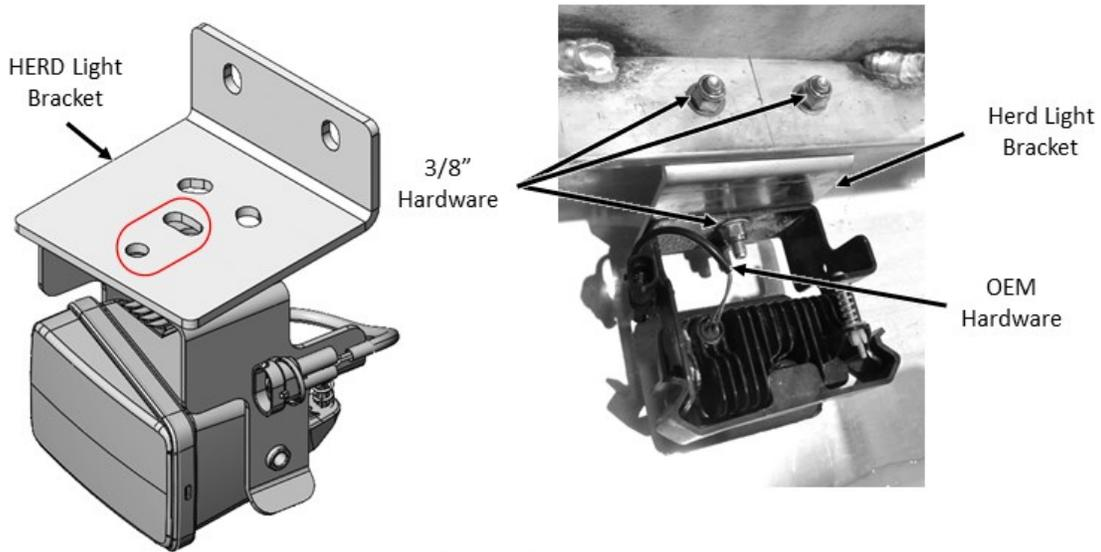

Figure 3a:
1. For a Set Forward Axle (SFA) Truck if equipped with OEM Fog Lights, use the OEM Light's hardware, provided HERD Light Bracket and 3/8" Hardware to install the OEM Fog Lights to the Herd Truck Guard. Use the Herd Light Bracket's front set of mounting holes as shown in Figure 3a. **Torque the 3/8" Hardware to 39 ft-lb.**